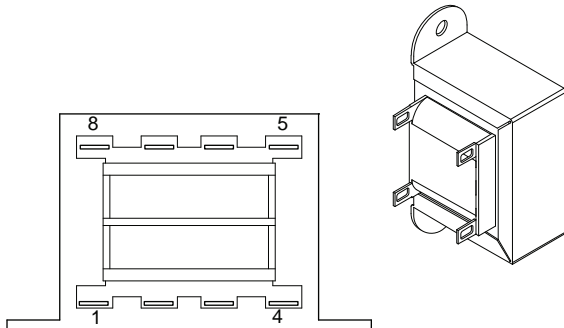

Figure 24. Transformer (TR1)
2. Connect one meter lead to Terminal 1 of TR1 and the other meter test lead to Terminal 4 of TR1(see Figure 24). Measure and record the voltage.